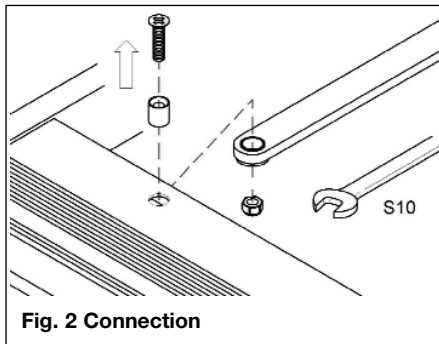

Fig. 2 Connection
- Remove the connection between the footboard and the arms (with screwdriver and wrench S10). (Fig. 2)